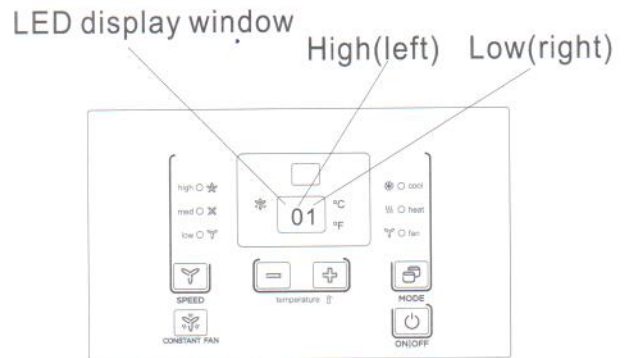

Fig.4
- Press the up (+) and down (-) buttons together for 3 seconds to activate the dip switches configurations by panel control (see Fig.4).
- Display function settings with 2 digitals in LED display window, high (left) for dip switches, low (right) for functions (see Fig.4).